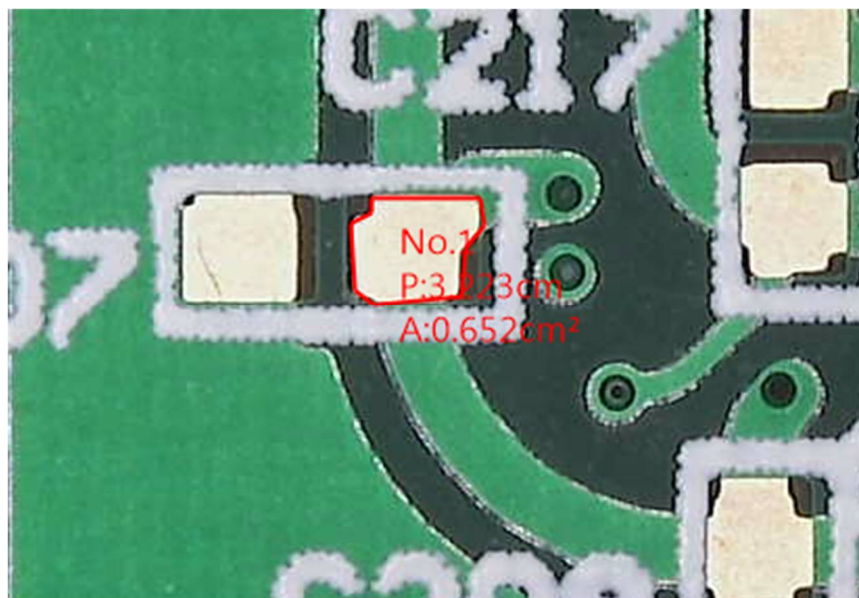

Fig 5-28 Measure Polygon
- (17) Polygon : A polygon is a shape that is made up of many sides and has only line segment. See Fig 5-28, follow the shape and left click on each angle, right click on the last point; the last point will link to first point to make a polygon.